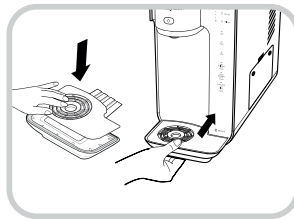

Fig. 4
- Finish the cleaning and reassemble again in the reverse order. (Fig. 4).